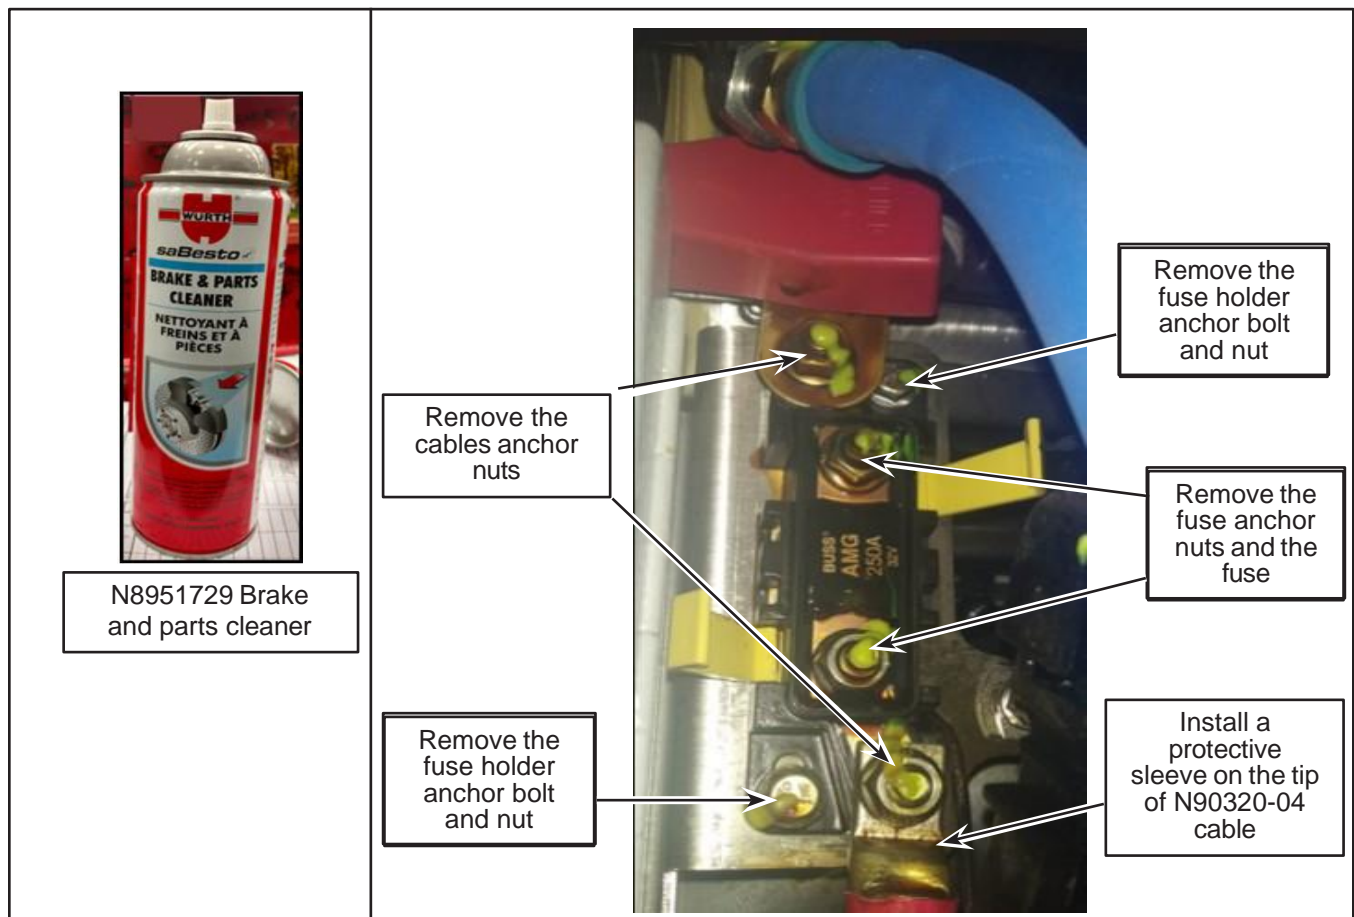

Figure 2 - N8951729 Brake and Parts Cleaner and Typical N84769 Fuse Holder Installation
- 1.9. Clean thoroughly the lug of the cables, the fuse holder terminals and the fuse holder anchor bolts preferably with brake and part cleaner (P/N N8951729) or any equivalent product. See Figure 2.
- 1.10. Remove the M8 anchor nuts which affix the cables connected to the fuse holder. Secure the cable to avoid contact with structure. Retain the M8 nuts. See Figure 2.
- 1.11. Remove the M8 anchor nuts which affix the N47759-250 to the fuse holder N84769. Retain the nuts. See Figure 2.
- 1.12. Remove the M6 anchor bolts and nuts which affix the fuse holder to the structure. Retain only the fuse and the fuse holder. See Figure 2.